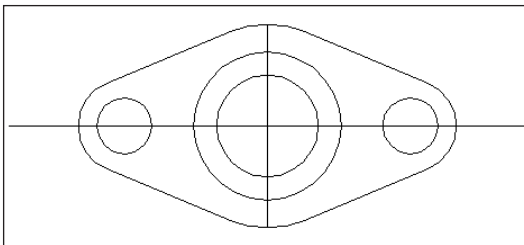

Figure 10-2: The completed mounting plate
8. At the Specify first point of mirror line: **prompt**, pick the intersection ②. At the Specify second point of mirror line: **prompt**, pick the intersection ③. Press Enter again at the Delete source objects? [Yes/No] <N>: **prompt**.
9. AutoCAD completes the mounting plate. Save your drawing. It should look like Figure 10-2.